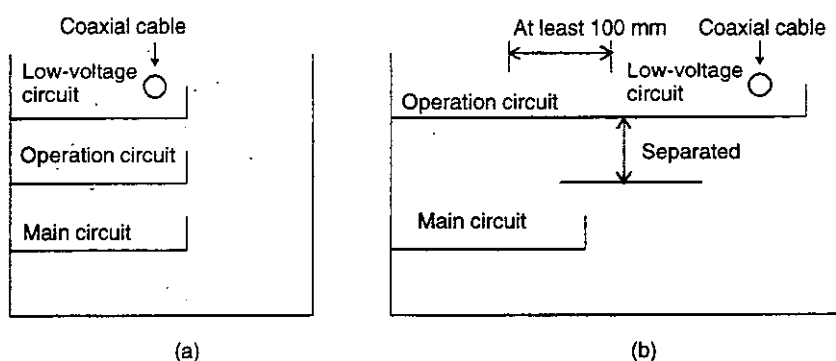

Figure 6.8 Separating Wire Ducts
- Accommodate the shielded coaxial cable in a low-voltage circuit duct separated from a general operation circuit as shown in Figure 6.8 (a). If the low-voltage circuit and general operation circuit are in the same duct, separate them by at least 100 mm, then accommodate the shielded coaxial cable on the low-voltage circuit side as shown in Figure 6.8 (b).